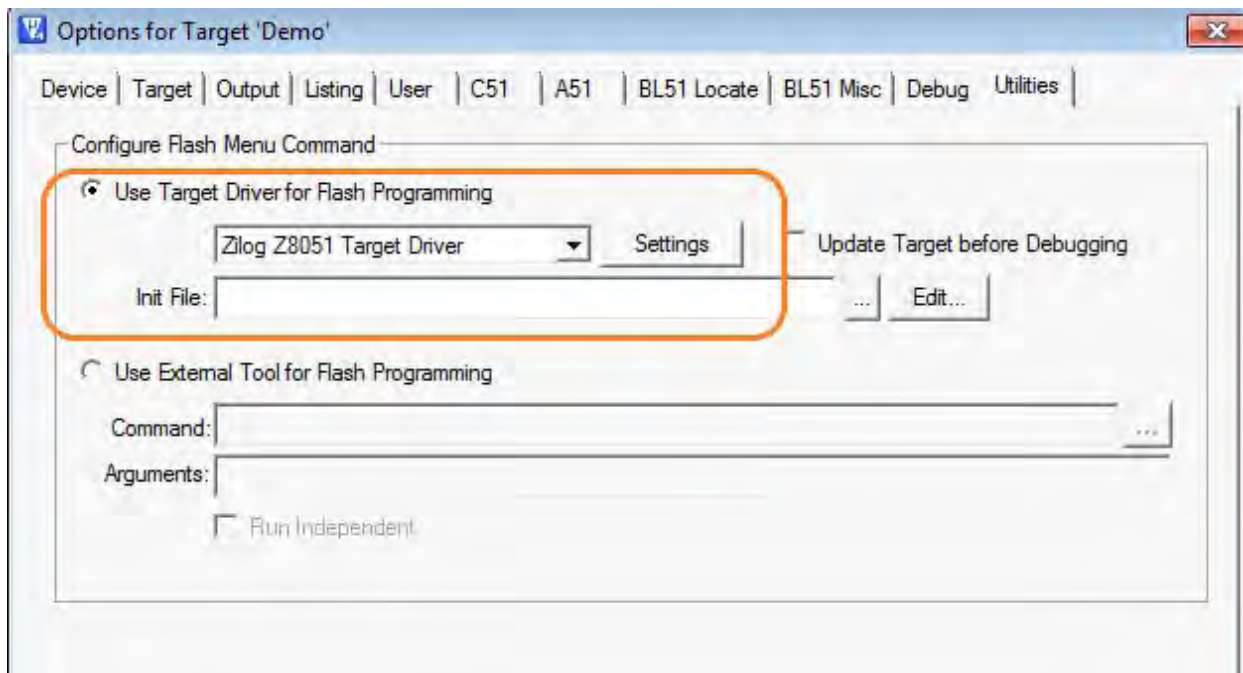

Figure 39. Selecting A Target Driver For Flash Programming
1. From the **Project** menu, open the **Options for Target 'your project'**, and click the **Utilities** tab. In the **Use Target Driver for Flash Programming** drop-down menu within the Configure Flash Menu Command pane, ensure that **Zilog Z8051 Target Driver** is selected, as indicated in Figure 39.